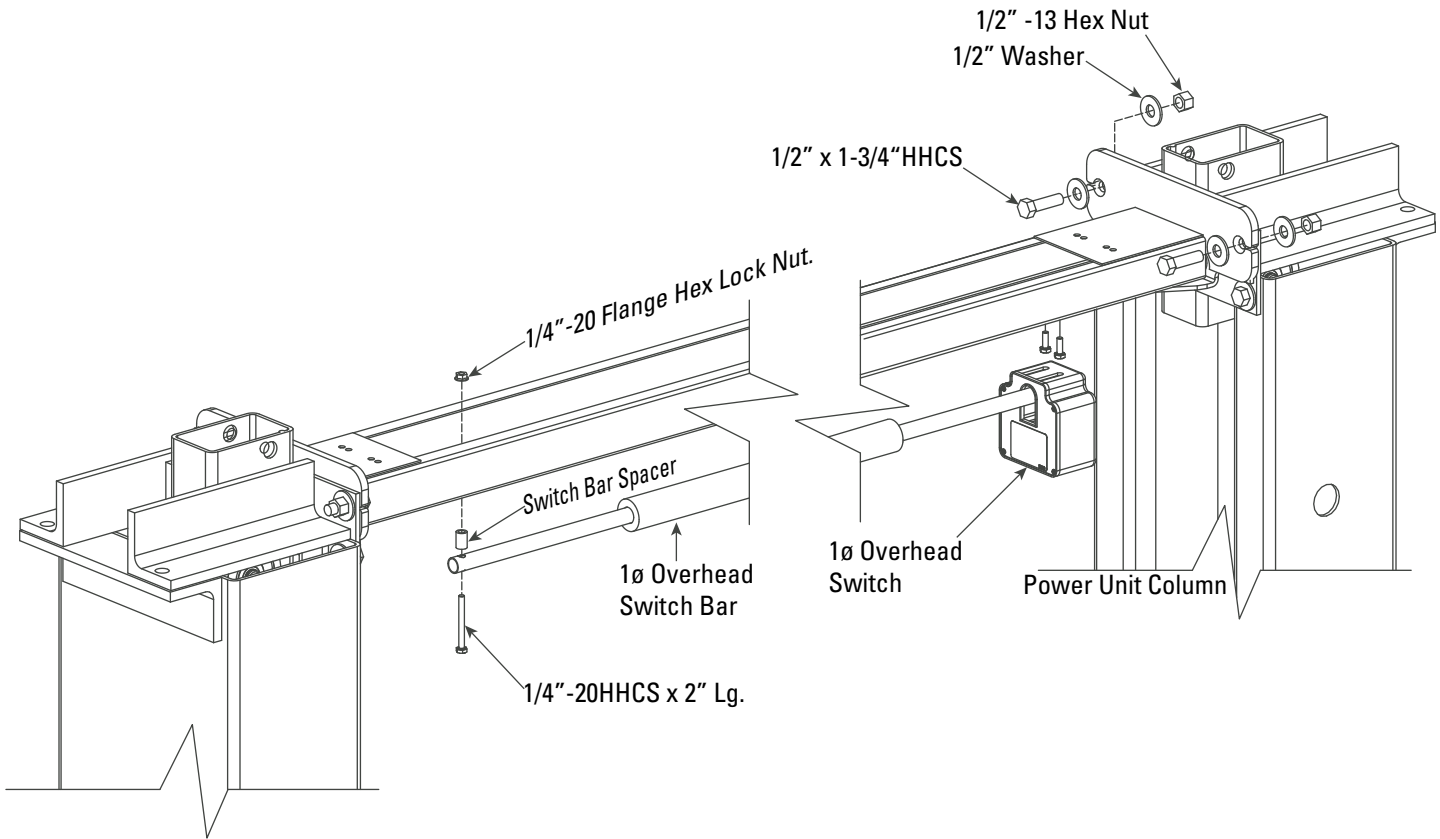
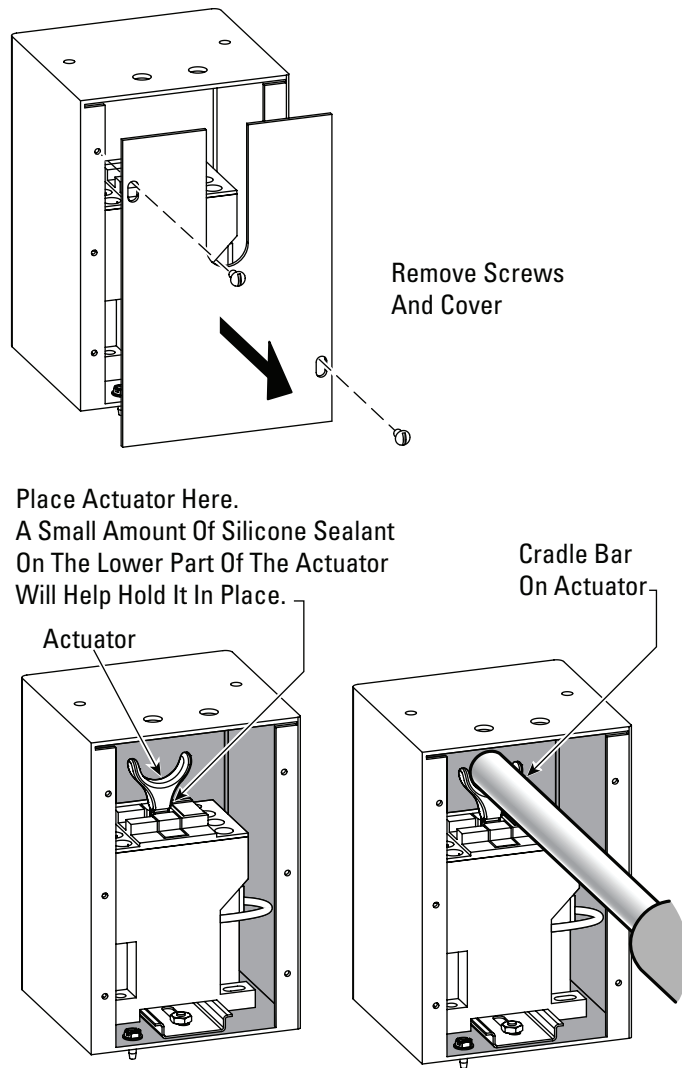

Figure 9
Figure 9a
- * Using (2) 1/4"-20 X 1/2" HHCS and (2) 1/4"-20 Flange Lock Nuts attach the overhead switch assembly to the overhead beam as shown in figure 9.
- * Slide the end of the padded switchbar without a mounting hole in it through the slot in the overhead switch assembly. Connect the padded switchbar to the inside hole in the overhead beam using a cylindrical spacer, 1/4"-20 X 1-3/4" HHCS, and Flange Nut, figure 9.
- B. For three phase lifts: Remove Limit Switch cover, Fig. 9a. Insert Actuator end of Switch Bar into slot located inside Limit Switch, Fig. 9a. A small amount of silicone sealant on the lower part of the actuator will help hold it in place. Insert 1/4"-20NC x 2" HHCS through pivot hole in end of Switch Bar. Then secure HHCS and Switch Bar to overhead as shown, using 3/4" spacer and 1/4"-20NC Locknut. Tighten Hex bolt leaving 1/16" gap between the spacer and the overhead assembly, Fig. 9. Replace limit switch cover.
- * Raise the overhead beam and secure it to the cylinder mount or upright using two 1/2 x 1-3/4 bolts, washers and nuts on each end, Figure 9.